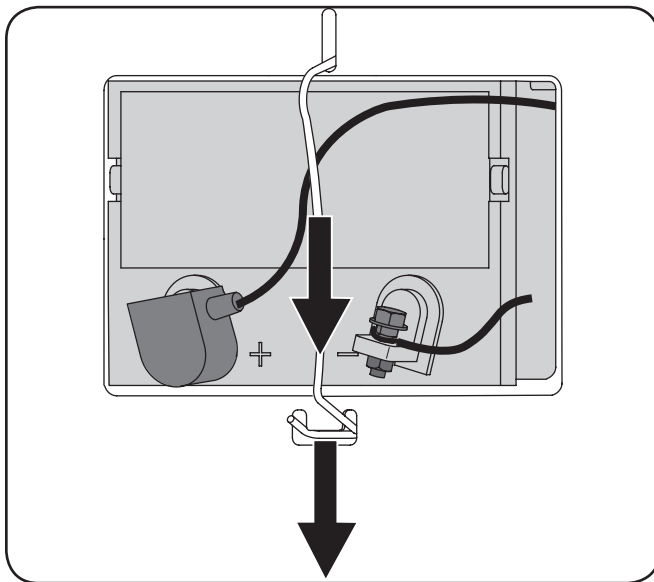

Figure 7-1
1. Push down and back on the battery hold-down bracket as shown in Figure 7-1 to free it from the seat mount frame.